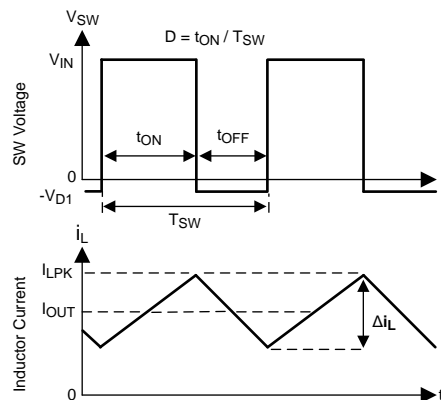

Figure 35. SW Node and Inductor Current Waveforms in Continuous Conduction Mode (CCM)
The following operating description of the LM43603-Q1 refers to the Functional Block Diagram and to the waveforms in Figure 35. The LM43603-Q1 is a step-down buck regulator with both a high-side (HS) and low-side (LS) switch integrated into the device. The LM43603-Q1 supplies a regulated output voltage by turning on the HS and LS NMOS switches with controlled ON time. During the HS switch ON time, the SW pin voltage V_{SW} swings up to approximately V_{IN} , and the inductor current i_L increases with a linear slope $(V_{IN} - V_{OUT}) / L$. When the HS switch is turned off by the control logic, the LS switch is turned on after a anti-shoot-through dead time. Inductor current discharges through the LS switch with a slope of $-V_{OUT} / L$. The control parameter of buck converters are defined as duty cycle $D = t_{ON} / T_{SW}$, where t_{ON} is the HS switch ON time and T_{SW} is the switching period. The regulator control loop maintains a constant output voltage by adjusting the duty cycle D . In an ideal buck converter, where losses are ignored, D is proportional to the output voltage and inversely proportional to the input voltage: $D = V_{OUT} / V_{IN}$.